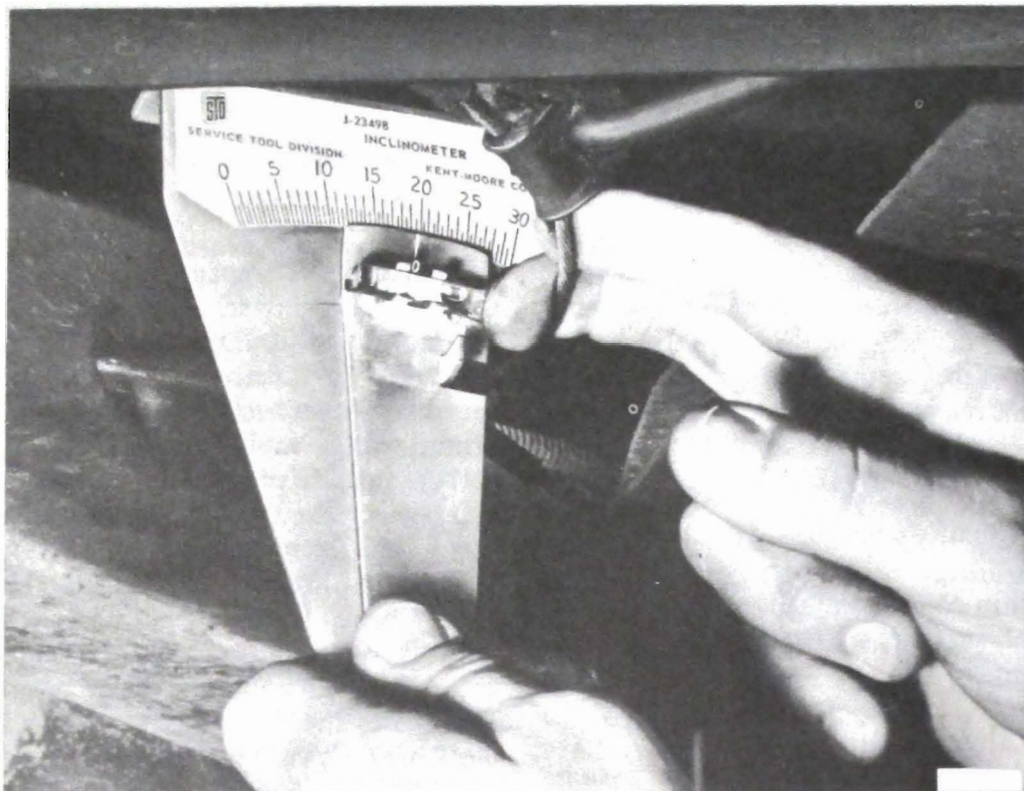

Figure 40-80 Measuring Angle at Front of Propeller Shaft
1. Place inclinometer on front propeller shaft bearing cap. See Figure 40-80. Center bubble in sight glass and record measurement.